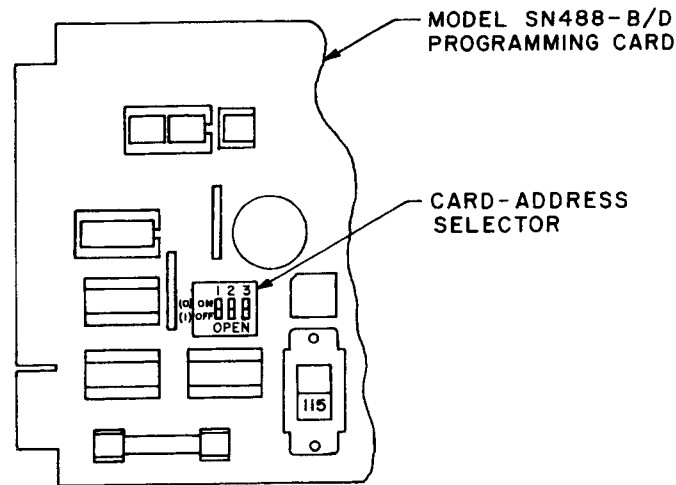

FIG. 3-2 LOCATION OF CARD ADDRESS SELECTOR SWITCH.
- 3-7 The address for each programming card contained in the Kepco 488 system is initially set by means of an address switch (S1) located on each card as shown in FIG. 3-2.